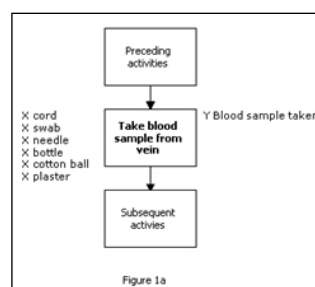

Figure 1a
Each activity is represented as an oblong 'process box' (Fig. 1a). Outputs (Y), are shown to the right of the process box and inputs (X) required to achieve your desired output are of the left of the process box. You can then clearly show that to achieve Y, you need to have X in place, if not then there could be inconsistency, delay and waste in the process.